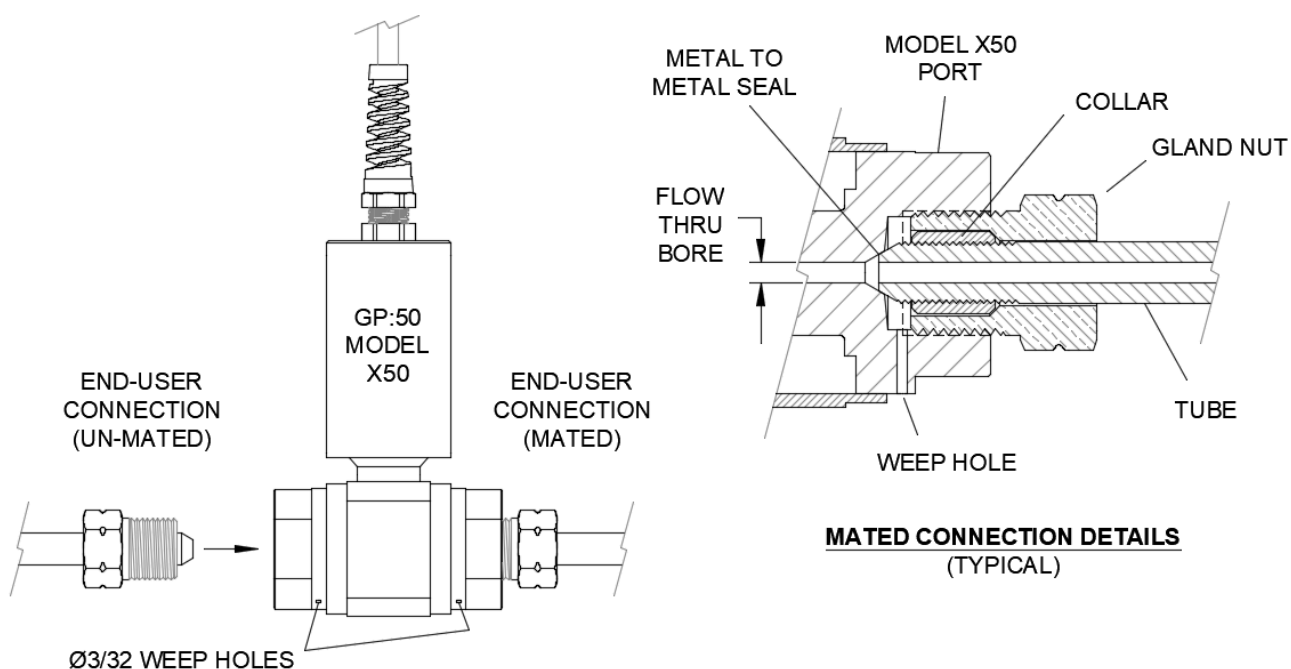

Figure 2.1: Model x50 Installation Details (Typical)
The Model x50 device is a "flow-thru" design with two (2) similar female pressure ports. One port lets process fluid into the pressure sensing region while the other port lets fluid out. Process connections are made using industry standard high-pressure metal-to-metal seals such as Parker/Autoclave Engineer M375C as depicted in Figure 2.1.